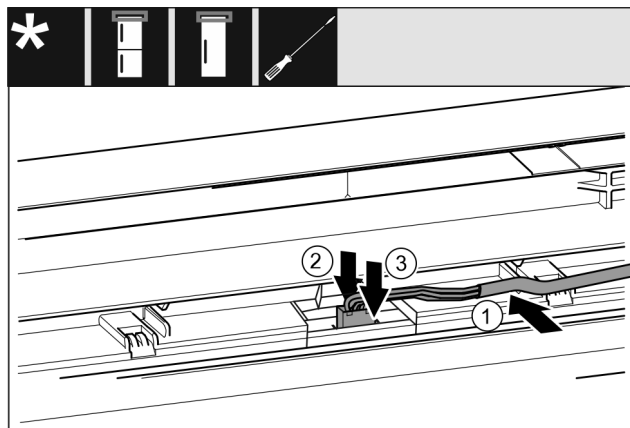

Fig. 63 Fridge/freezer combinations / freezers / refrigerators*
- Insert the cable Fig. 63 (1) into the guide in the top door.*
- Push the latching tab Fig. 63 (2) backwards.*
- Engage the plug Fig. 63 (3)*.